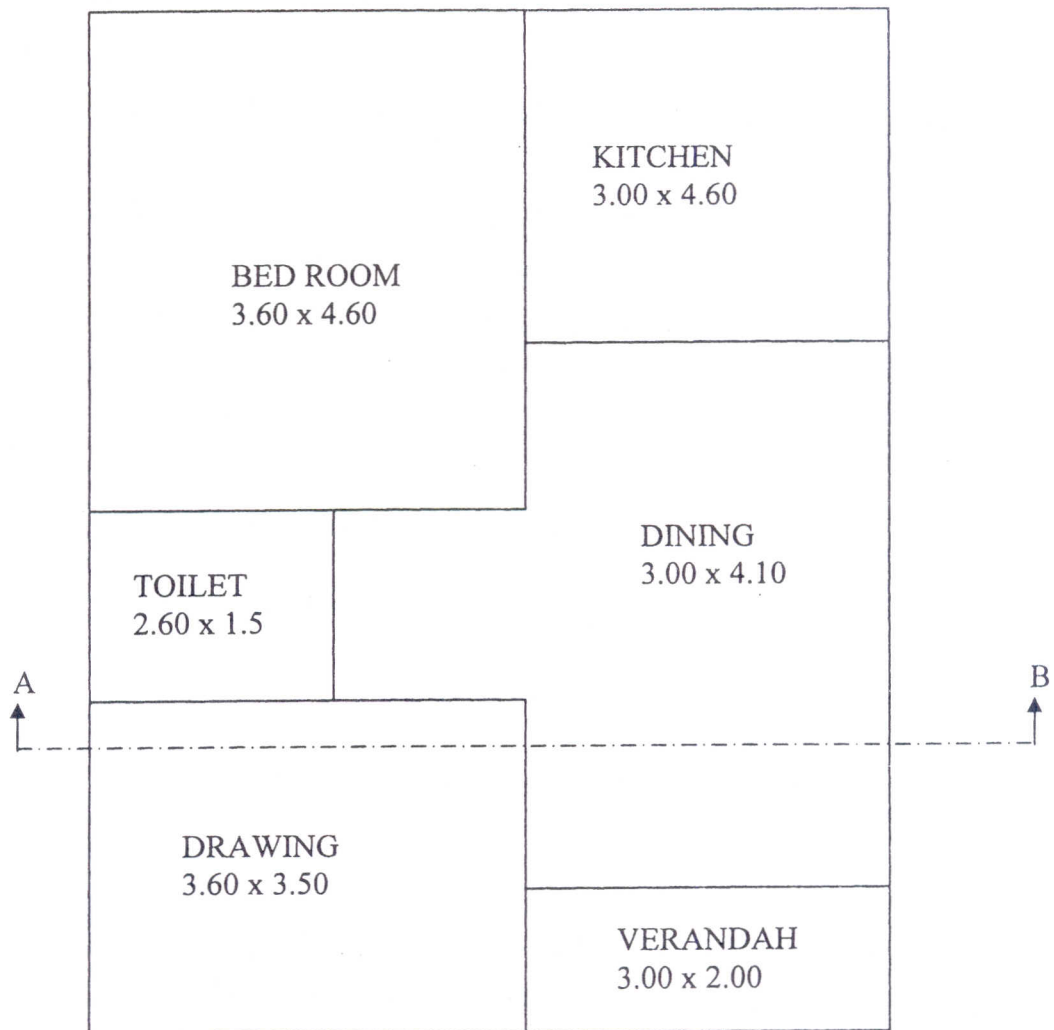

Fig. 1
5. The line sketch of a building is given in Fig.1. Draw the plan, section AB and front elevation of the building as per the following specifications.